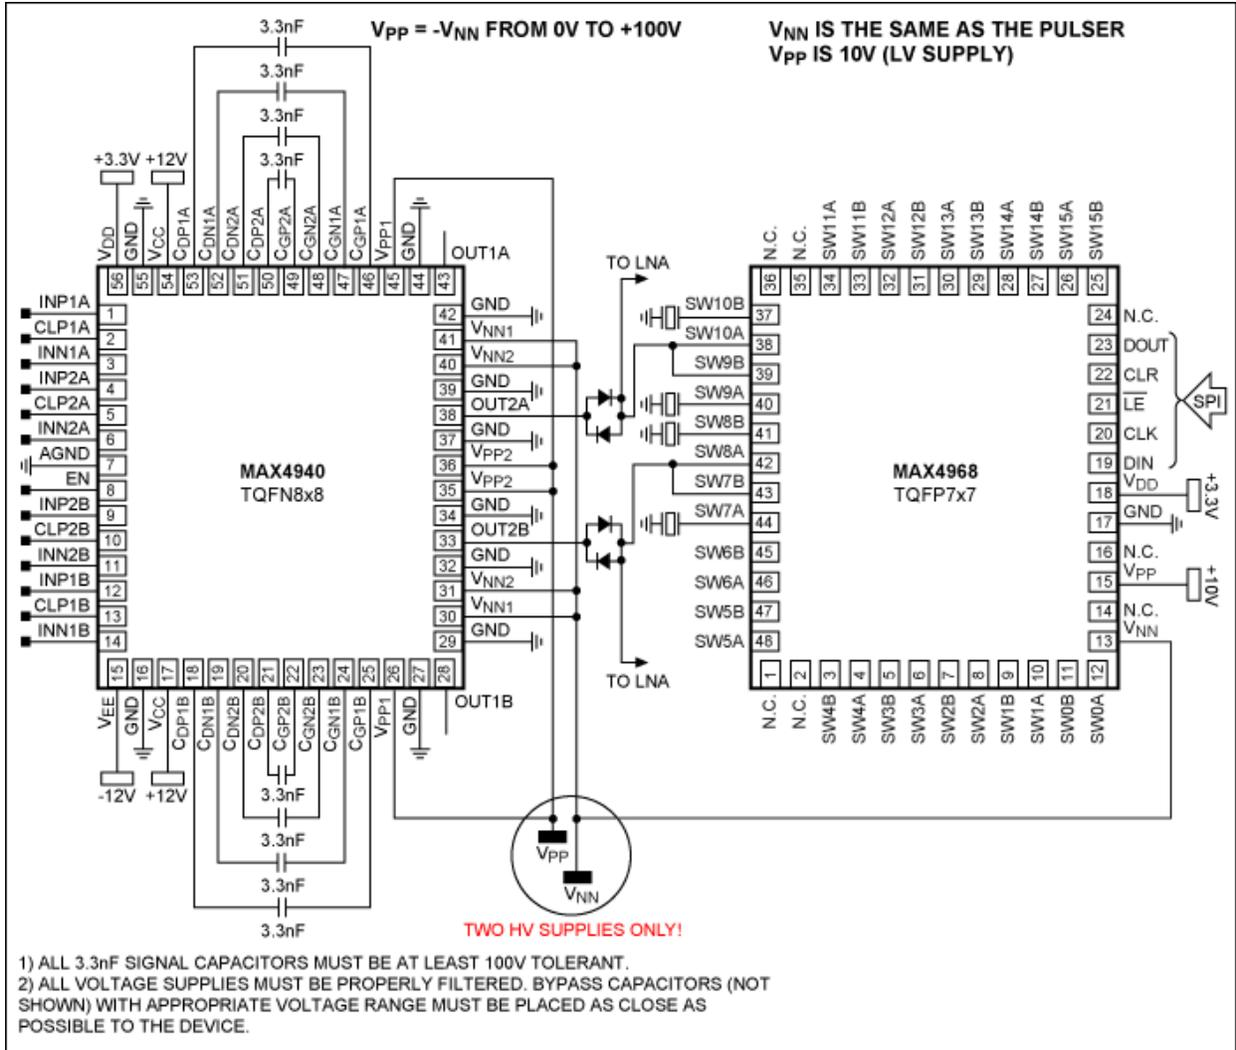

Figure 4. Using the MAX4940 and MAX4968 together greatly simplifies design using High Voltage Supplies in bipolar applications.
3. The MAX4940's exposed pad (not shown in Figure 4) must be connected to VNN.